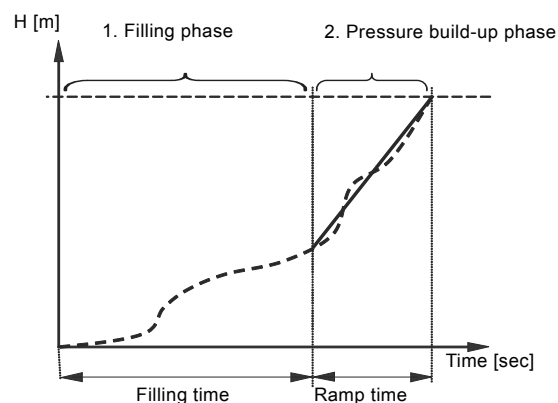

Fig. 32 Filling and pressure buildup phases
2. When the system's pressure sensor detects that the pipe has been filled with water, the pressure is increased until it reaches the setpoint. See fig. 32.